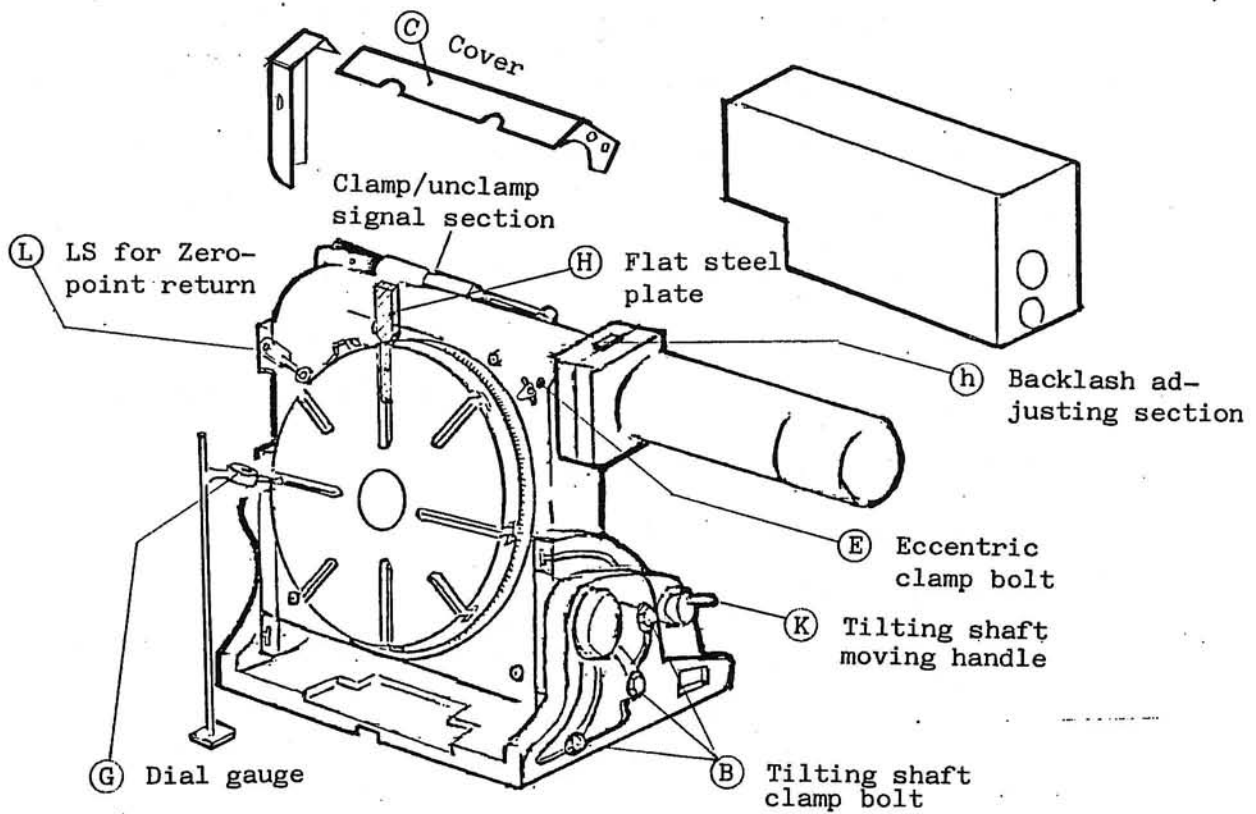
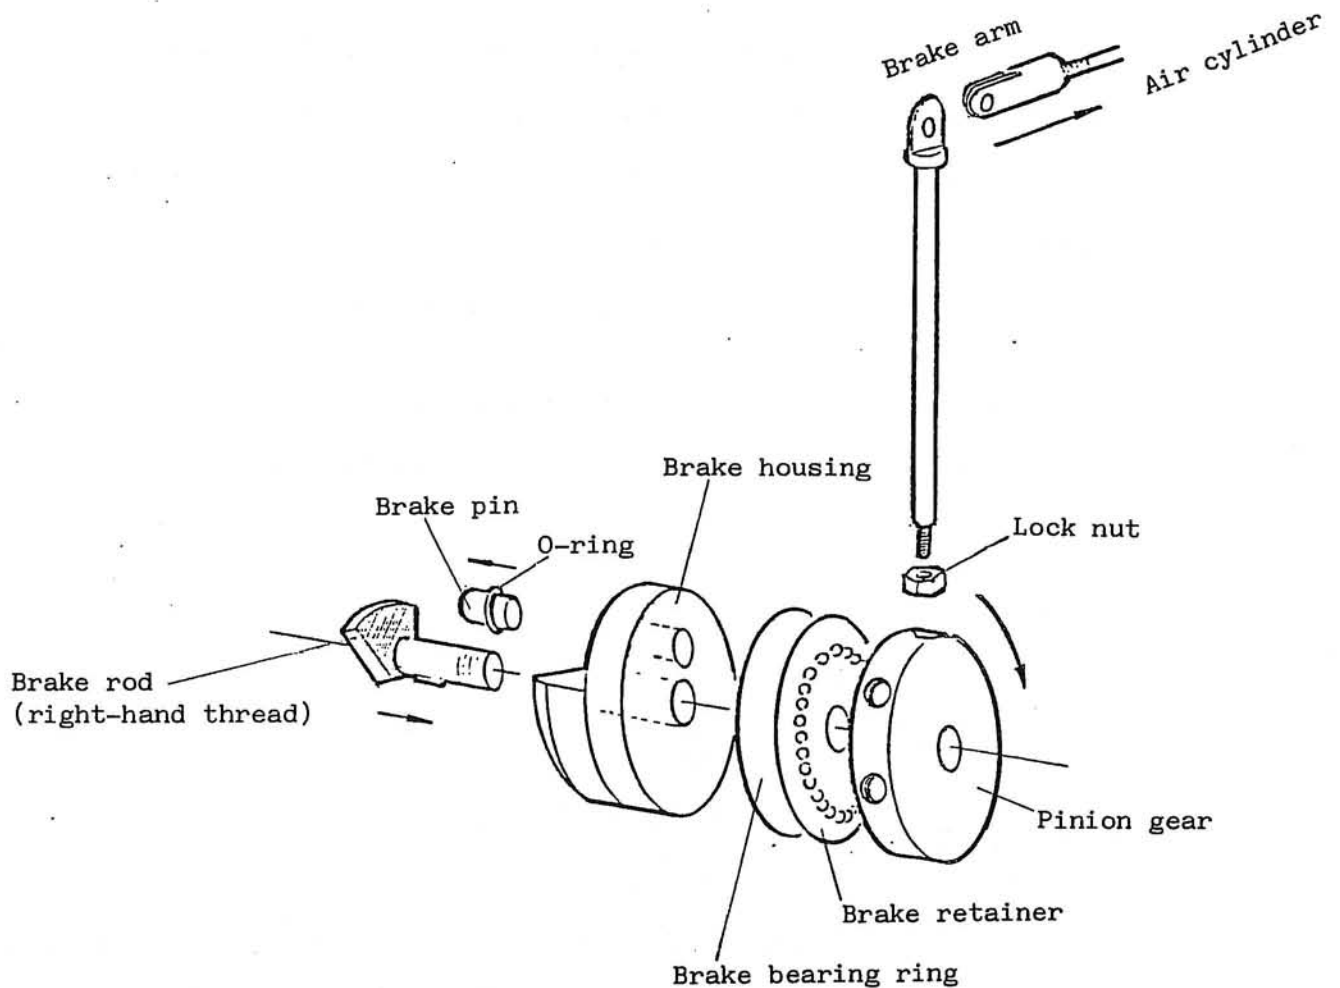

Fig. 1
Fig. 5 Brake mechanism
(Refer to Fig. 1 (G) & (H).)
- 1) Remove the cover (C).
- 2) Loosen the eccentric clamp bolt (E).
- 3) Loosen the four intermediate case clamp bolts (I).
- 4) Here, reset the dial gauge (G) as shown in Fig. 1 and tighten the backlash adjusting bolt (h), then the eccentric shaft will turn in the direction of arrow. Thus, the backlash between the worm gear and the worm screw will get near to zero. Adjust the backlash to 10 ~ 15  $\mu\text{m}$  by using the screw (h) watching the deflection of the dial gauge (G) while shaking the outer periphery of circular table. Finally, securely lock the screw.
- 5) Tighten the intermediate case clamp bolt (I) and the eccentric clamp bolt (E).
1) The limit switch (Fig. 5) for zero-point return is disposed in the (L) part (left side face of table) of Fig. 1. The dog attached to the outer periphery of table actuates this limit switch to have it output the speed reduction signal.
The brake of this circular table is incorporated at the backside of the table body, and its mechanism is illustrated in Fig. 5. The air cylinder is gear connected to the brake mechanism which exerts a clamping torque of 35 kgf.m with an air pressure of 5 kgf/cm2.